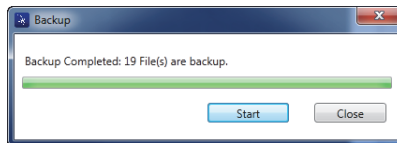

Figure 7-27 The Backup dialog box (complete)
5. When the backup has been completed, click **Close** (see Figure 7-27 on page 211).